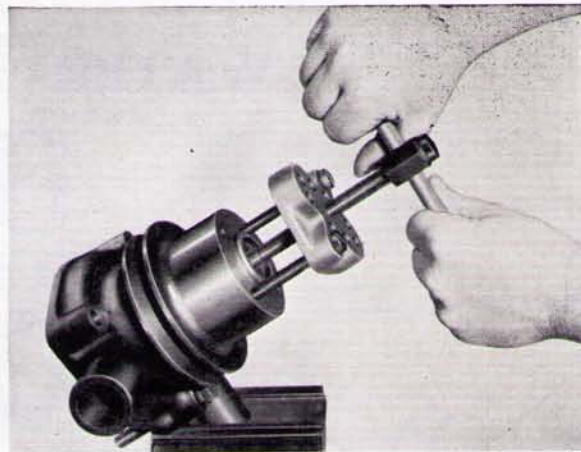

Fig. Q.3.
2. Remove the water pump pulley from the front of the shaft. See Fig. Q.3.